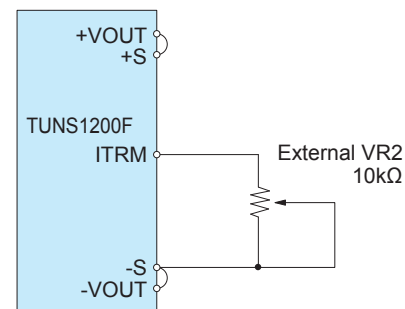

Fig.3.11 Connecting External Devices (TUNS1200F)
(1) Constant current adjustment by potentiometer
■By connecting the external potentiometer (VR2) as shown in Fig.3.11, output current for constant current becomes adjustable.